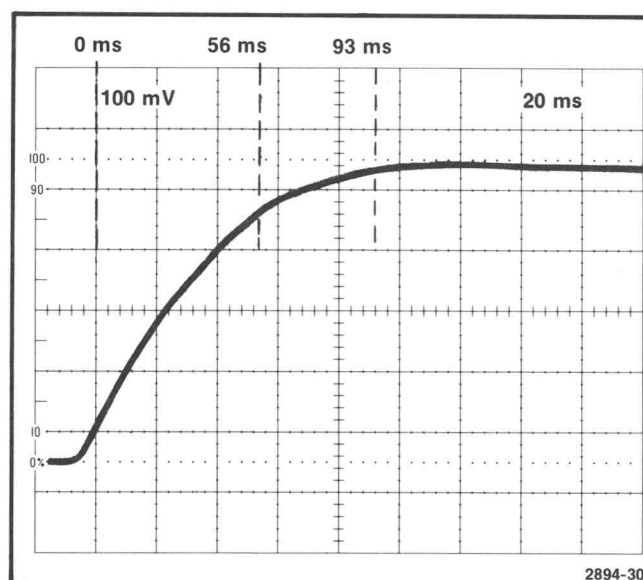

Fig. 4-22. Respiratory effort risetime waveform.
m. **CHECK**—Risetime (10% to 90%) of test oscilloscope waveform is 56 to 93 ms (see Fig. 4-22).